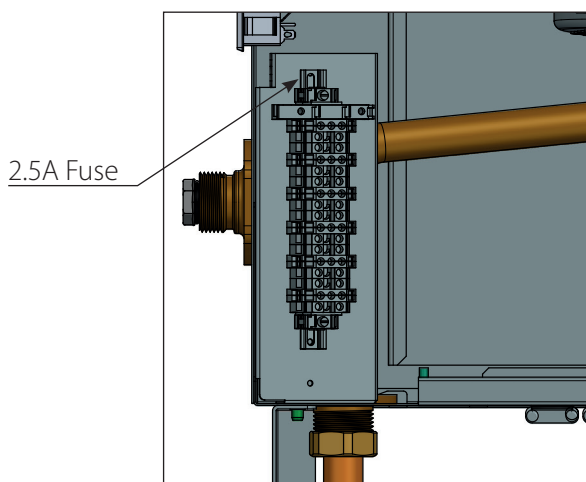

Fig. 31 - Terminal Strip Location
- A 2.5A fuse is also located on the terminal strip, to protect the output. Refer to *Fig. 31*.
1. Connect a dedicated 120 VAC/15A service to the line voltage terminals located internally in the lower left corner, as shown in Fig. 31 below.
2. Connect the CH1 & CH2 circulator wiring to the respective line voltage terminals located internally in the lower left corner, as shown in Fig. 31 on the left. This circulator is typically used to supply heat to the central/ space heating loop.
3. Connect the DHW circulator wiring to the line voltage terminals located internally in the lower left corner, as shown in Fig. 31 on the left. This circulator is typically used to supply heat to an indirect hot water heater.
4. The boiler pump is factory wired to the line voltage terminal as shown in Fig. 31 on the left.